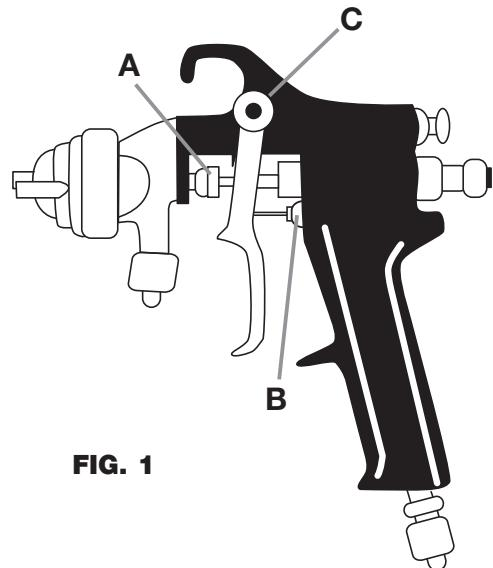

FIG. 1
- See Fig. 1 for Location of Above Points.